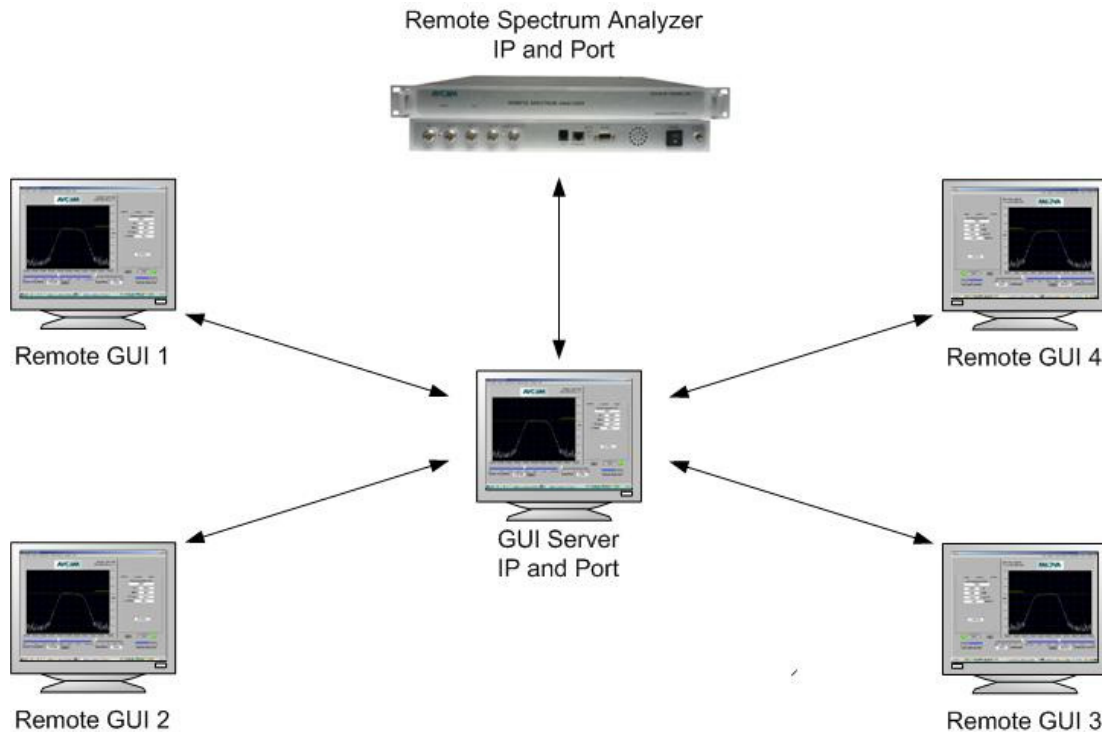

Figure 1
AVCOM GUI v2.8.1 and greater has a feature that allows multiple GUIs to connect to the same AVCOM spectrum analyzer (SA) simultaneously through a central GUI acting as the waveform server as shown in Figure 1. The arrowed lines indicate the direct lines of communication.